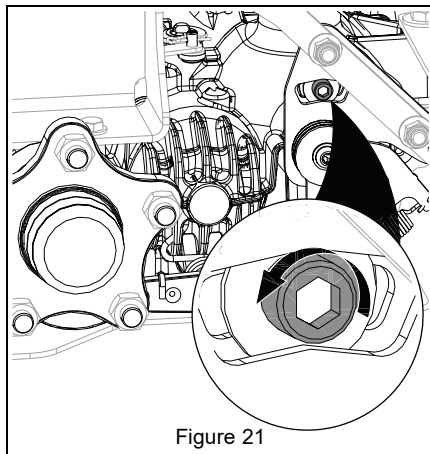

Figure 21
1. Loosen the return-to-neutral screw on the transaxle. See Figure 21.